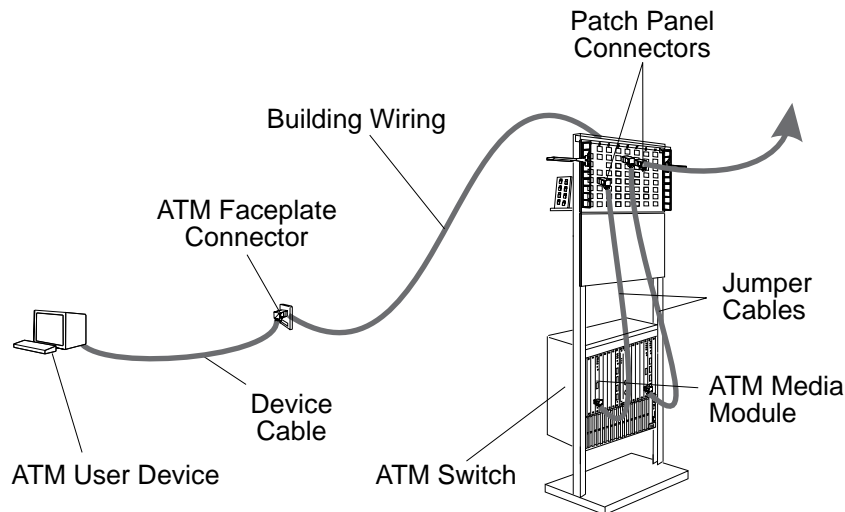

Figure 3. Connecting Devices Via Building Wiring
- **2** In the work area, connect one end of the device cable to the ATM connector on the user device (see Figure 3).